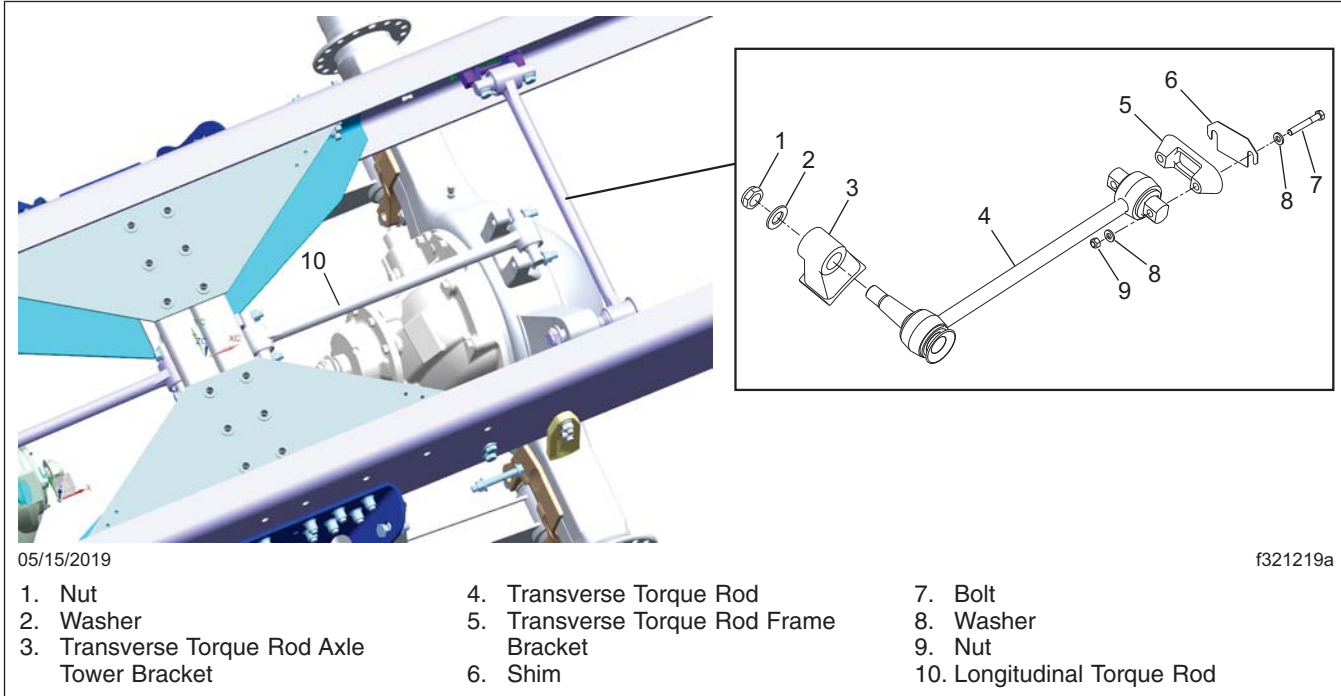

Fig. 1, Rearmost Axle Assembly
3. Remove the three mounting fasteners from the transverse torque rod and discard the rod and fasteners. Save the shims. See Fig. 1.